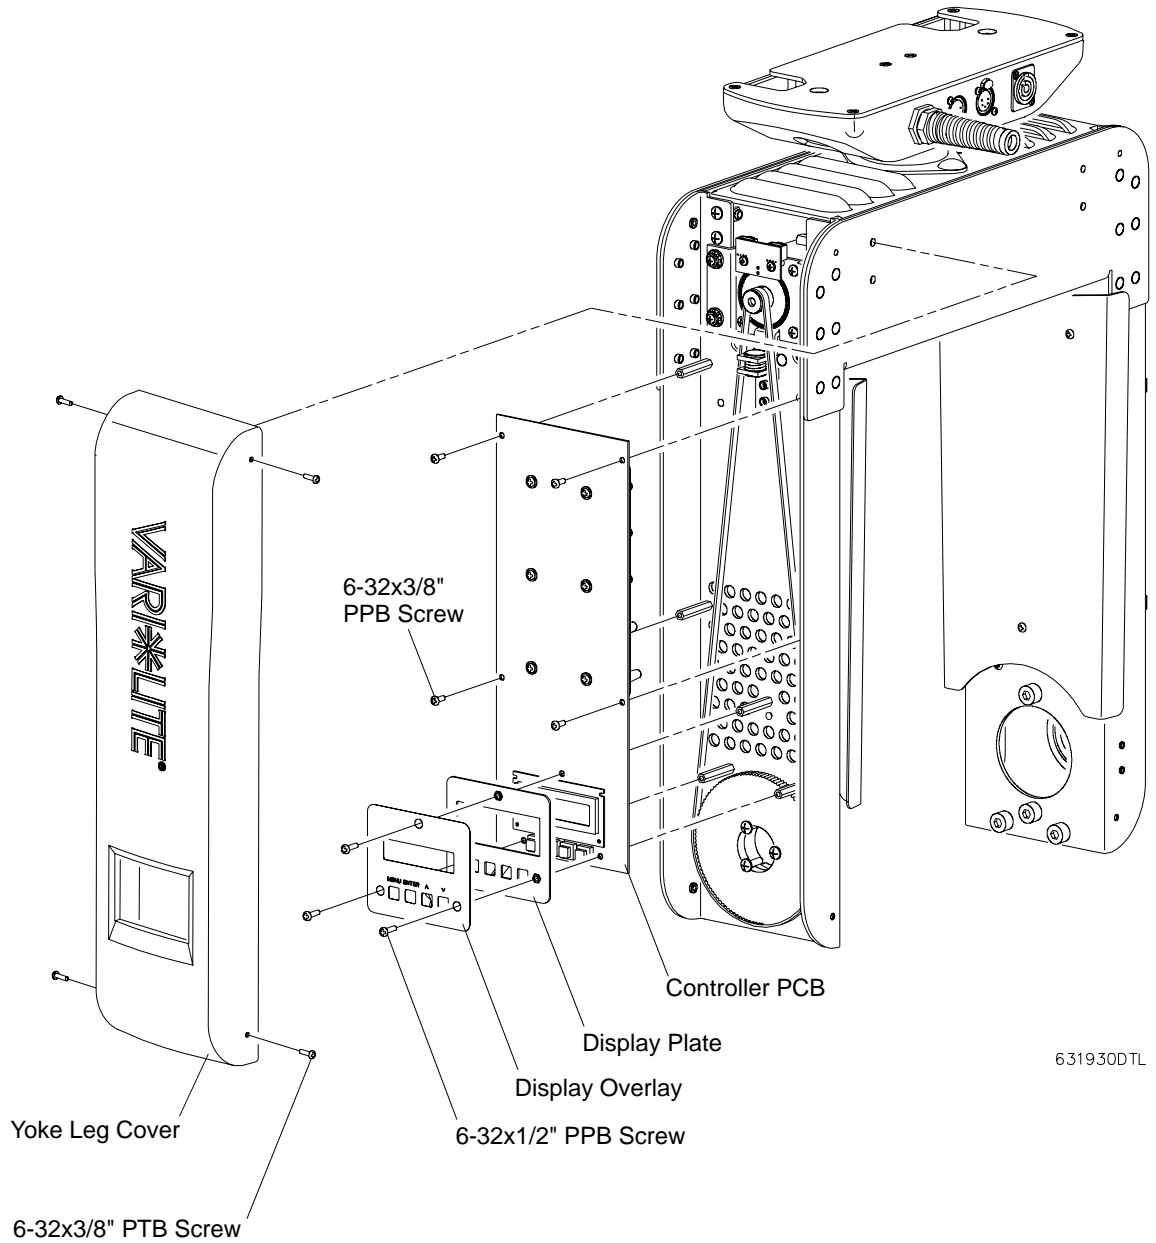

Figure 2-24: Controller PCB Replacement
- Step 2. Remove yoke leg cover (side with menu display) by removing four 6-32x3/8" PTB screws as shown in Figure 2-24.